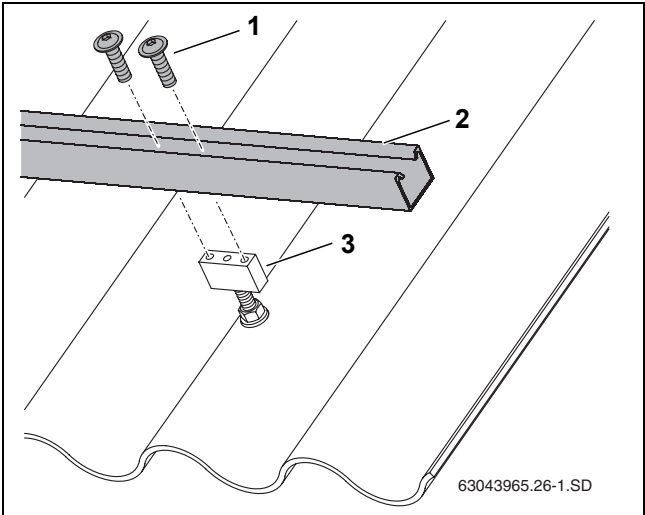

Fig. 26 Fastening the profile rail to the Holding Bracket
- Secure each profile rail (Fig. 26, [2]) with two screws each (Fig. 26, [1]).